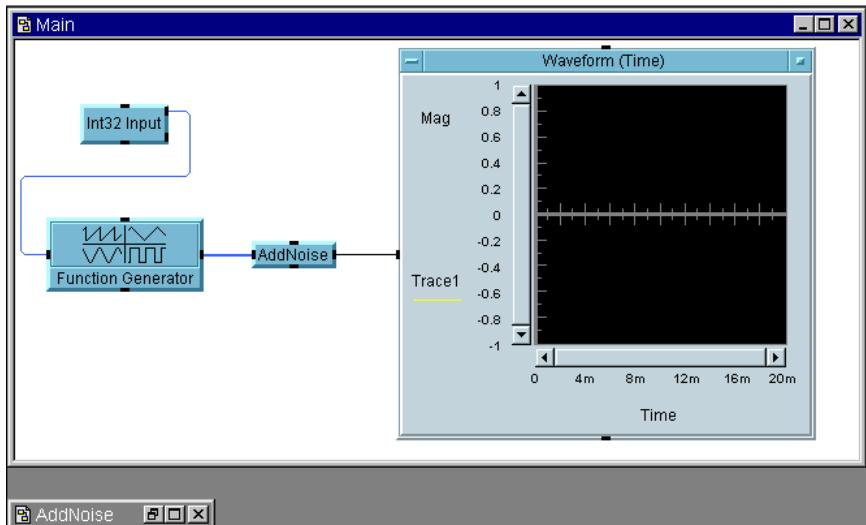

Figure 2-7. Int32 Input Added to usrobj-program.vee
4. Connect the top output pin of the Int32 Input object to the input pin on the Function Generator. Notice that Frequency can only be changed through the input pin now, and you can no longer edit the Frequency input field. The program should look like Figure 2-7.